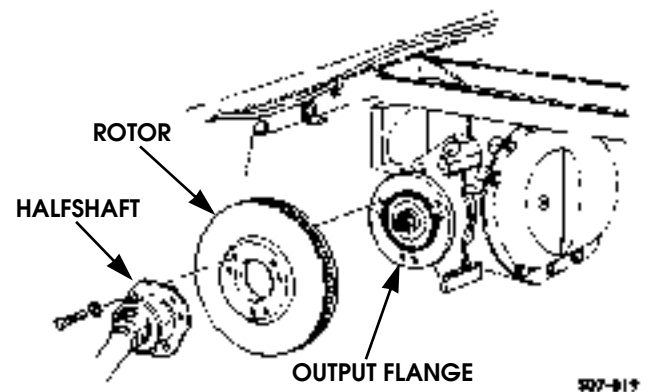

Figure 7-17: Service Brake Rotor
2. Remove six capscrews, lockwashers, halfshaft, and rotor from output flange. Discard lockwashers (Figure 7-17).
1. Clean mating surfaces of caliper and adapter and lubricate adapter slides with brake component lubricant (Figures 7-17 and 7-19).